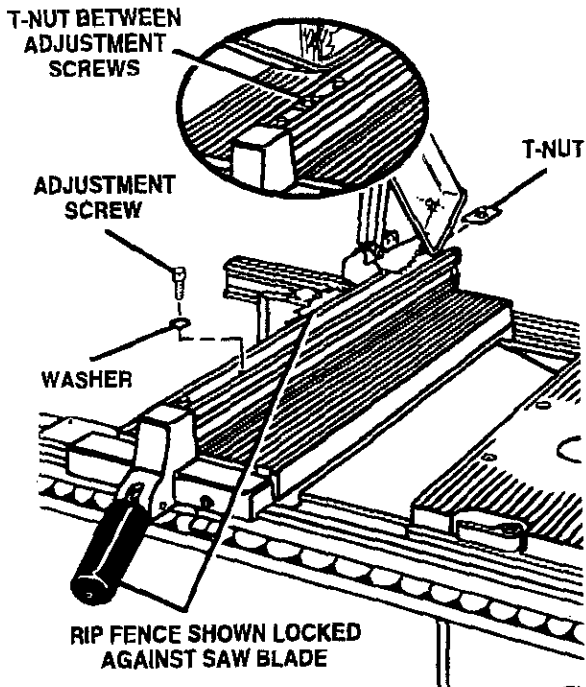

Fig. 2
- Lift the blade guard and place the rip fence against the saw blade and lock the rip fence in place. This will insure that the rip fence remains square while installing the first t-nut. See Figure 2.
- Slide one of the t-nuts into the top channel of the rip fence and place it between the two adjustment screws. See Figures 2 and 3.